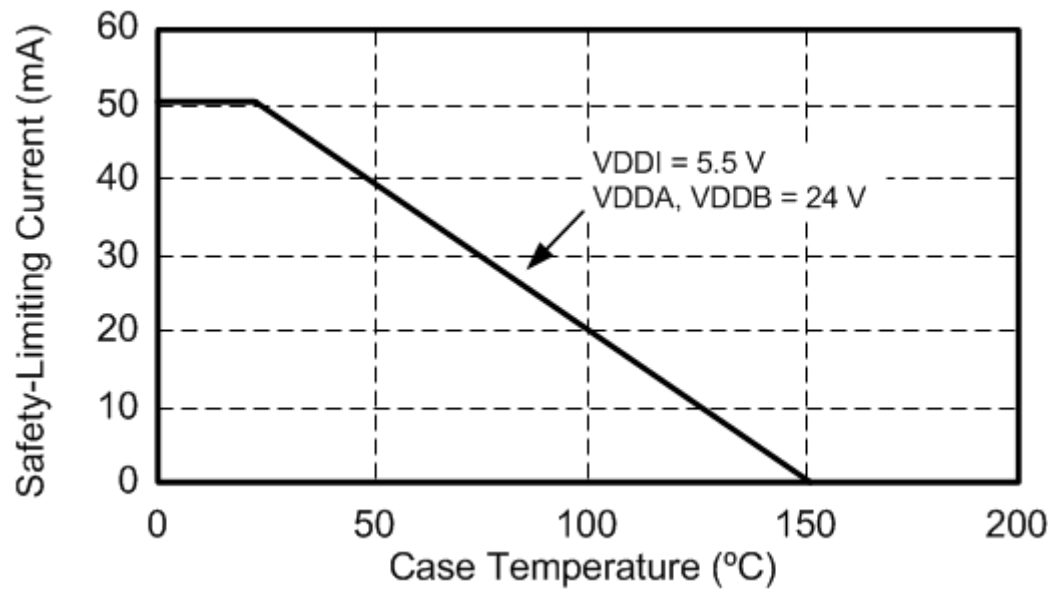

Figure 4.4. WB SOIC-16, NB SOIC-16 Thermal Derating Curve, Dependence of Safety Limiting Values with Case Temperature per VDE 0884-10
1. Maximum value allowed in the event of a failure. Refer to the thermal derating curve in [Figure 4.4 WB SOIC-16, NB SOIC-16 Thermal Derating Curve, Dependence of Safety Limiting Values with Case Temperature per VDE 0884-10](#) on page 28.